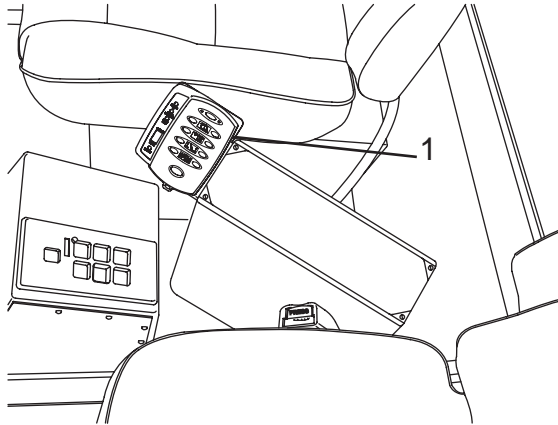

Figure 134
**Cab Control Box Version:** The receiver is located in the control box (cab control box) (Figure 134, Item 1).